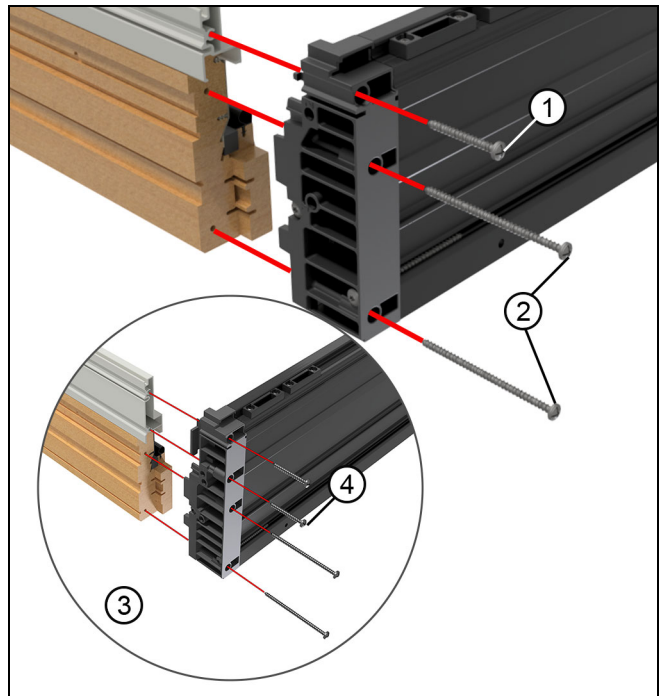

Figure 8 Performance sill
2. Once seated, use the provided #8 x 1-1/2" pan head screw (painted head) through the sill key into the jamb cladding. See Figure 8.
Use two #8 x 3" pan head screws to screw through the sill key into jamb wood. See Figure 8.